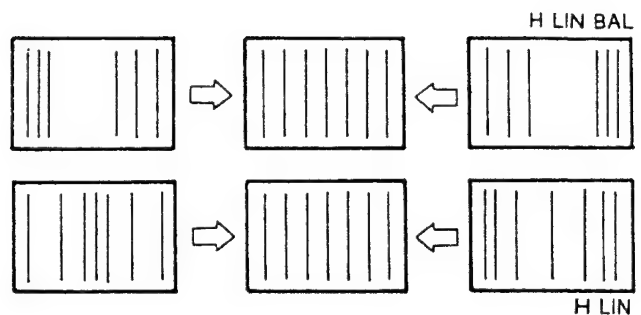

Fig. 1-10.
9. Adjust the H SIZE, H LIN BAL, and H LIN data as shown in Fig. 1-10.